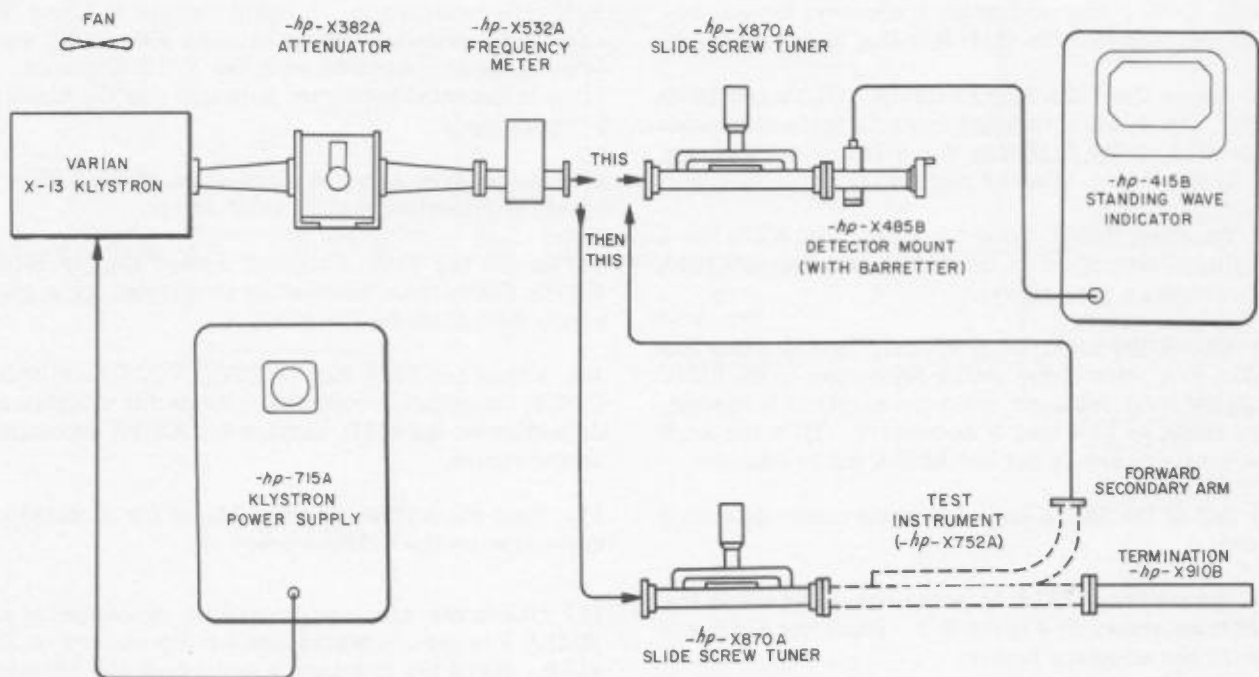

Figure 2-1. X752A Direction Coupler Coupling Factor Calibration
1) To check the coupling factor of the X752A, connect the equipment as shown in Figure 2-1. Connect the X485B Detector Mount and the X870A Slide Screw Tuner directly to the X532A Frequency Meter.
14) Insert the X752A between the X382A and the X485B as shown in Figure 2-1. Read the 415B and record the coupling factor.